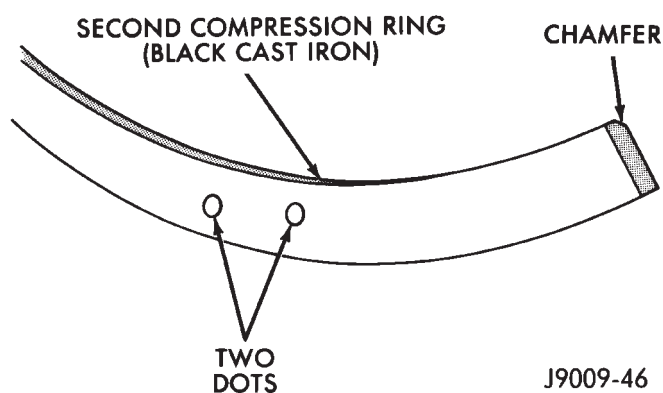
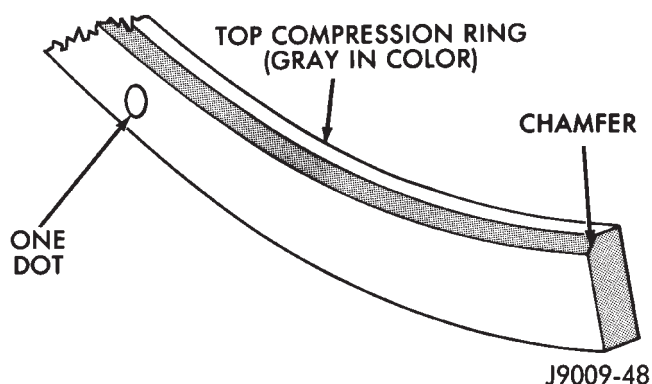
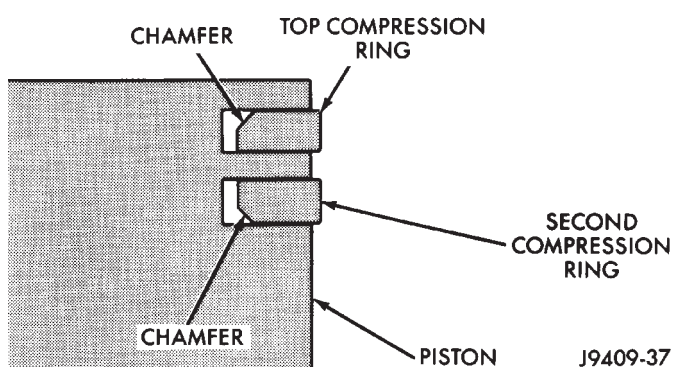

Fig. 9 Second Compression Ring Identification (Typical)
Fig. 10 Top Compression Ring Identification (Typical)
Fig. 11 Compression Ring Chamfer Location (Typical)
- (2) Install rings and confirm ring side clearance:
- (b) Install the second compression rings using Installation Tool C-4184. The compression rings must be installed with the identification mark face up (toward top of piston) and chamfer facing down. An identification mark on the ring is a drill point, a stamped letter "O", an oval depression or the word TOP (Fig. 9) (Fig. 11).
- (c) Using a ring installer, install the top compression ring with the chamfer facing up (Fig. 10) (Fig. 11). An identification mark on the ring is a drill point, a stamped letter "O", an oval depression or the word TOP facing up.